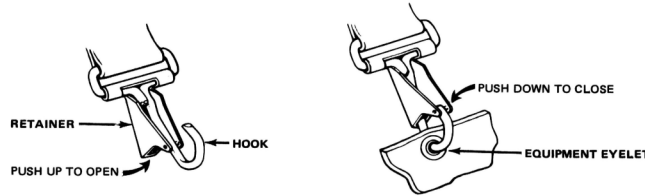

Figure 8-22: Snap Hooks
- Open all suspender snap hooks by pushing the hooks up and out of the retainers. Attach the back suspender snap hooks into the eyelet at each side of the two center top eyelets at the back of the equipment belt. Close the snap hooks (Figure 8-22).